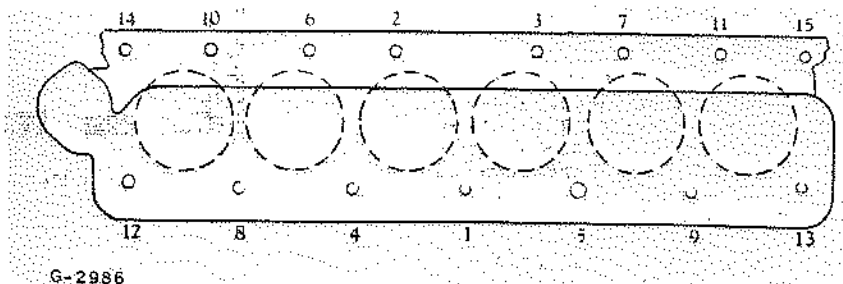

Fig. 55 - Cylinder head mounting bolt tightening sequence
2. **INSTALL VALVE ROCKER ARM ASSEMBLY.** Insert 12 valve lifter rods in cylinder head, make sure they enter the valve tappet. Lift the valve rocker arm assembly into position on cylinder head with the drilled oil bracket placed third from front. Make sure number 2, 4 and 6 bracket sleeve dowels are in place (Fig. 7). Install the remainder of cylinder head bolts and tighten alternately and evenly in sequence to 90 foot pounds (Fig. 55).